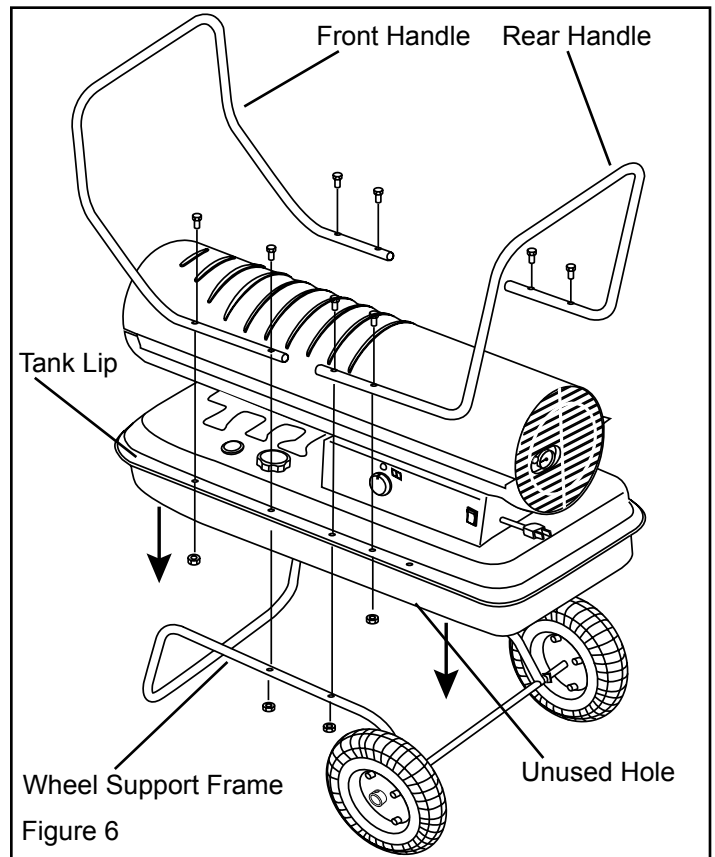

Figure 6
5. Attach front handle with (2) long screws (50 mm) and (2) nuts through the second hole from the front on both sides of the tank lip and wheel support frame and tighten firmly.
6. Insert (2) short screws (30 mm) through the first hole from the front in the tank lip and tighten firmly. Make certain all (4) screws are secure.
7. Attach rear handle with (2) long screws (50 mm) and (2) nuts through the third hole from the rear of the heater on either side. (See Figure 6)